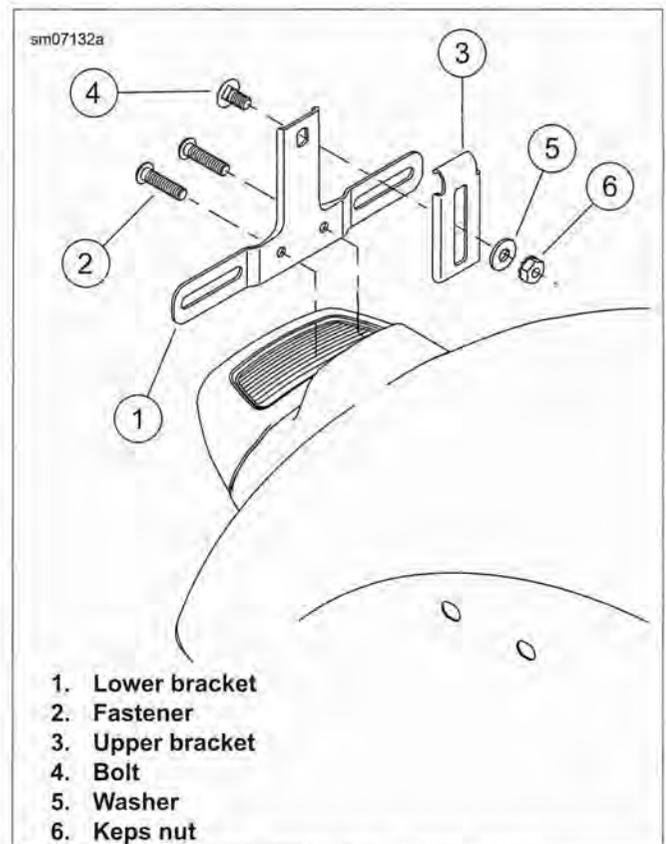

Figure 2-204. License Plate Bracket
2. See Figure 2-204. Remove the two fasteners (2) from the tail lamp base to remove the lower license plate bracket (1).
5. Assemble the upper bracket (3) with bolt (4), washer (5) and keps nut (6).